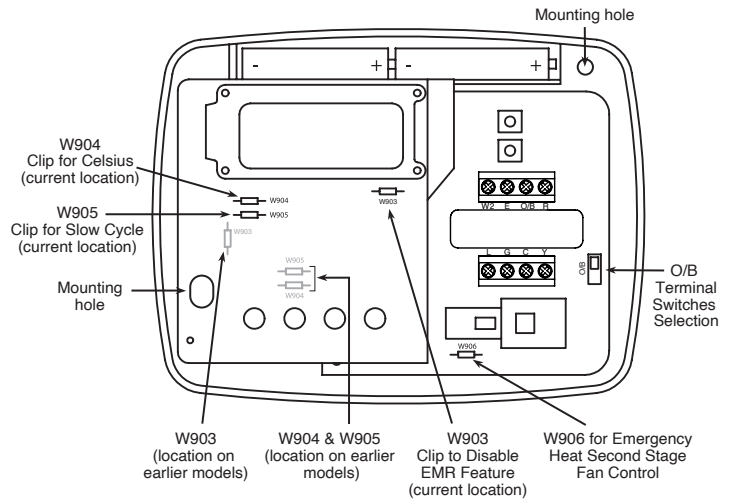

Figure 1. Thermostat base
If your emergency or auxiliary system will energize the blower, then jumper W906 on the thermostat base must be cut (see fig. 1).
To disable EMR, clip jumper W903 (see Fig. 1).
5. Fasten base loosely to wall, as shown in fig. 1, using two mounting screws. Place a level against bottom of base, adjust until level, and then tighten screws. (Leveling is for appearance only and will not affect thermostat operation.) If you are using existing mounting holes, or if holes drilled are too large and do not allow you to tighten base snugly, use plastic screw anchors to secure subbase.
This thermostat does not require batteries to operate. The 2 "AAA" alkaline batteries are for the thermostat to remember the programming if AC voltage is lost. If the display shows **BATT** or **CHANGE**  when AC power is not present, the batteries are low and should be replaced with fresh "AAA" alkaline batteries. For best results, replace all batteries with new premium brand alkaline batteries such as Duracell® or Energizer®. To replace the batteries, install the batteries along the top of the base (see fig. 1). The batteries must be installed with the positive (+) ends to the right.
- **°F/°C CONVERTIBILITY** – The factory default setting is Fahrenheit. Clipping W904 jumper on the circuit board (see fig. 1) will alter this feature to Celsius temperature setting.